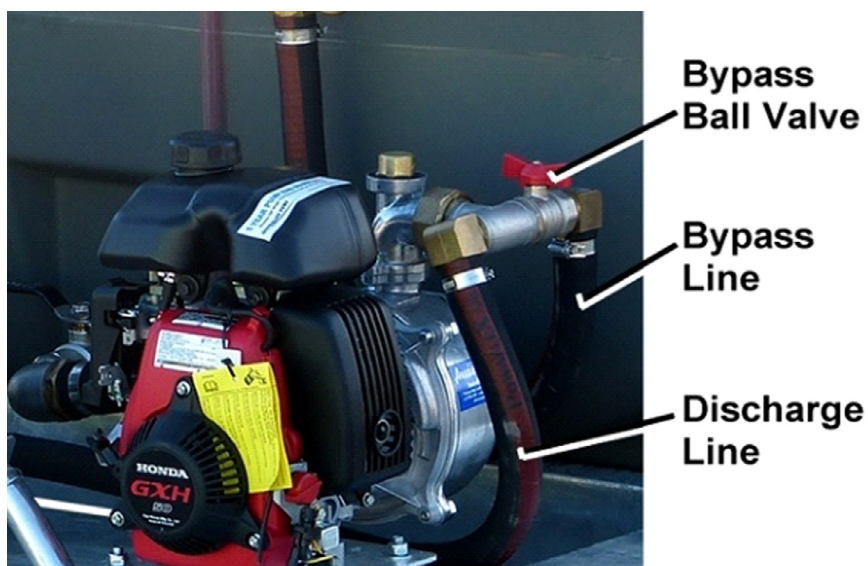

Figure 6 – Bypass System Ball Valve
- Ensure the ball valve on the bypass system is partially, with the handle turned to approximately halfway, refer to Figure 6.